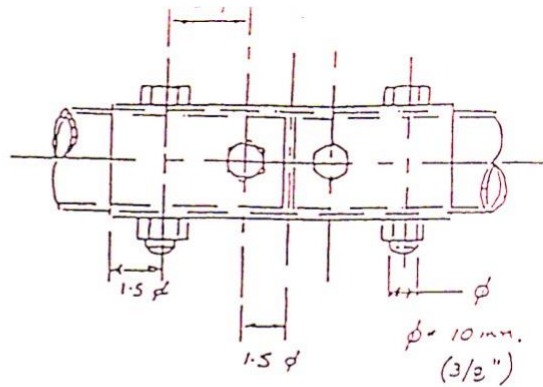

FIG 2
- f) Muff connections as in fig 2 may be used.